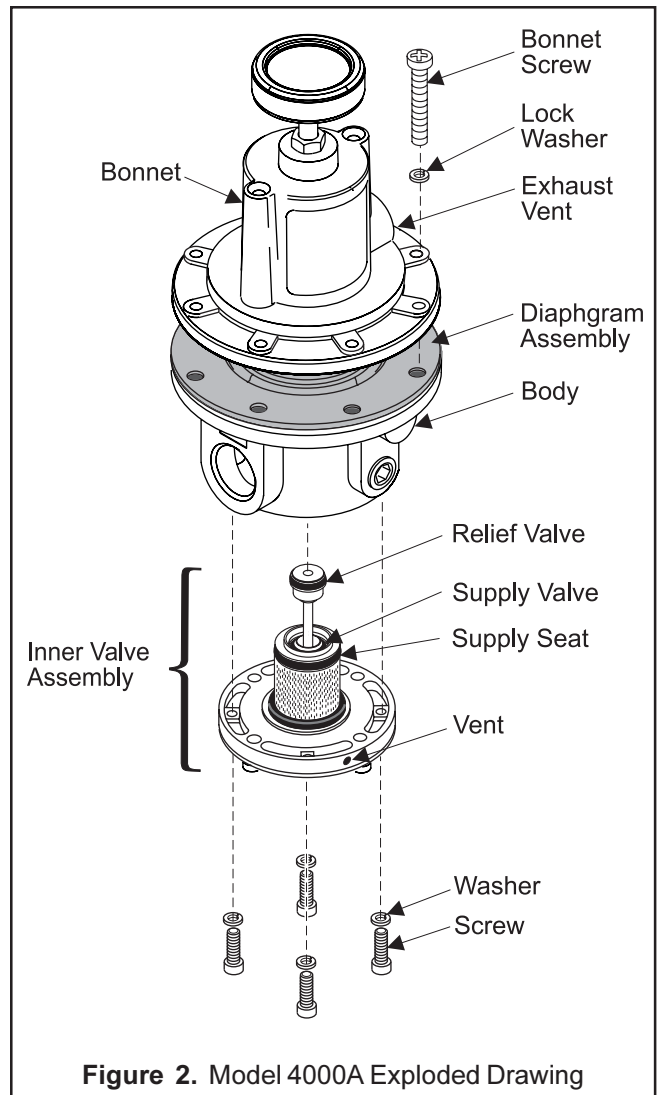

Figure 2. Model 4000A Exploded Drawing
2. Remove the four Screws and Washers (between ports) from the bottom of the unit. For more information, see Figure 2.
3. Remove the Inner Valve Assembly. For more information, see Figure 2.
5. Replace the assembly carefully. Ensure that the Vent in the exterior part of the Inner Valve Assembly and the Exhaust Vent in the Bonnet are clear. For more information, see Figure 2.